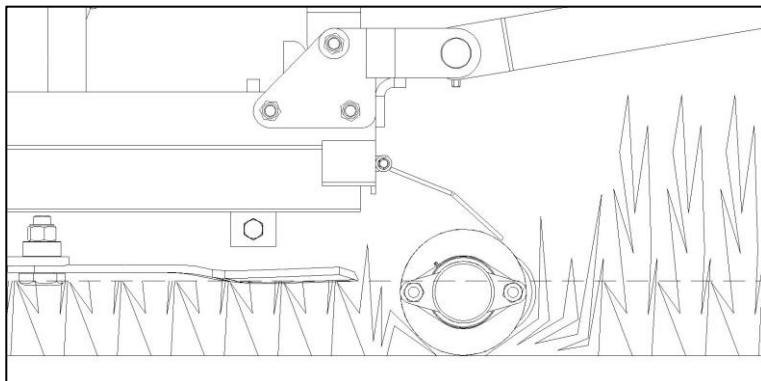

Fig. 1
- Roller-supported implements travel over the material before cutting, so that the “folding” effect (Fig. 1) can be minimised by controlling material heights.
- 'n Rollergesteunde implement ry oor die materiaal voordat dit sny, dus kan die “vou”-effek (Fig. 1) verminder word deur materiaalhoogtes te beheer.